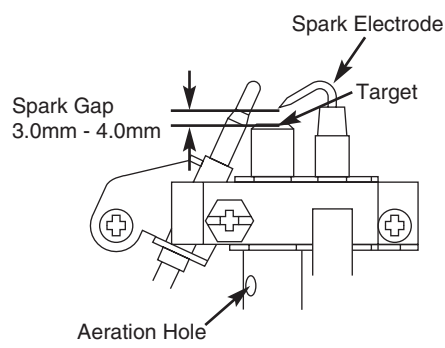

Fig.10 Spark Gap
8. Check that the spark gap is as in Fig.10.